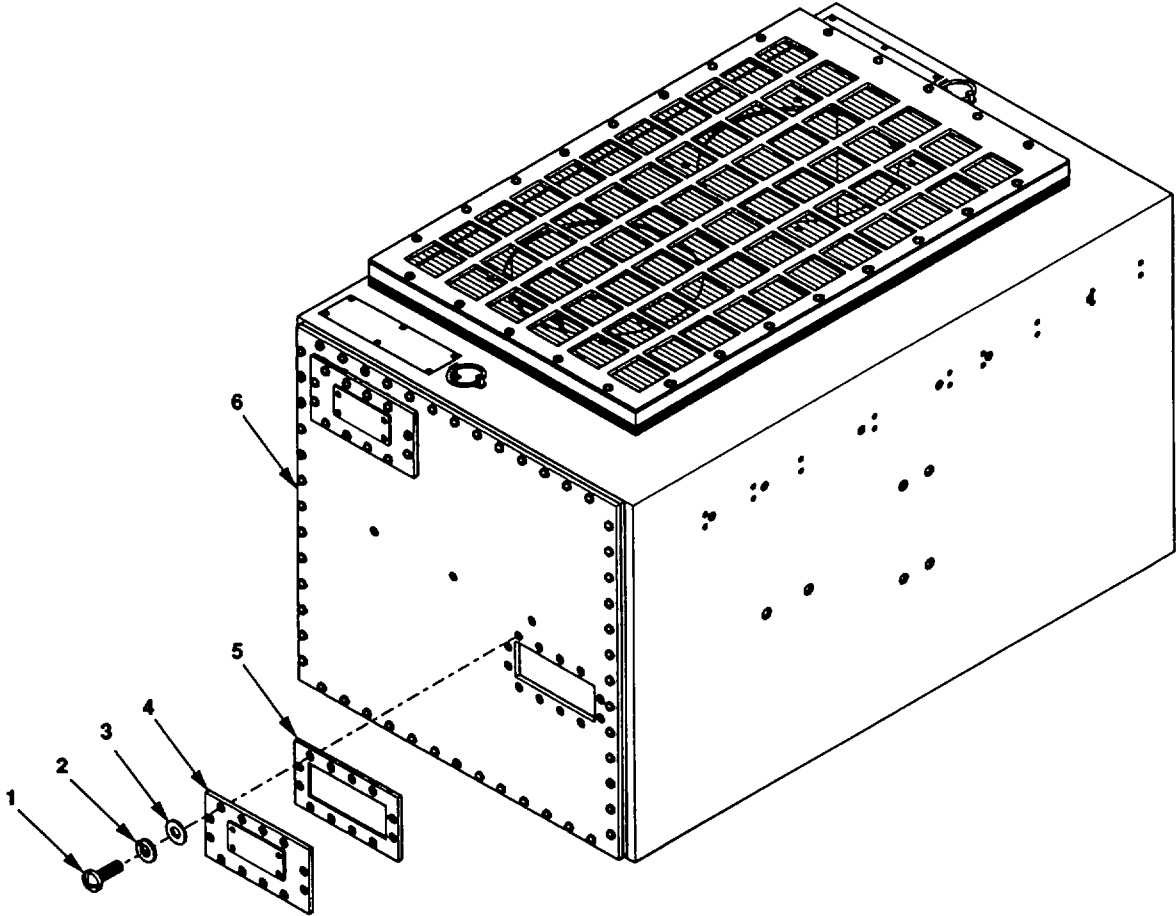

Figure 4-4. Access Panel Maintenance.
- a. **Remove.** Remove twelve screws (Figure 4-4, 1), lock washers (2), flat washers (3), and access panel (4). Discard lock washers (2).
- (1) Inspect access panel (4) for cracks, holes, damage, or damaged or missing EMI gasket (5).
- (2) Inspect mounting hardware for damage.
- (3) Replace damaged or missing components.